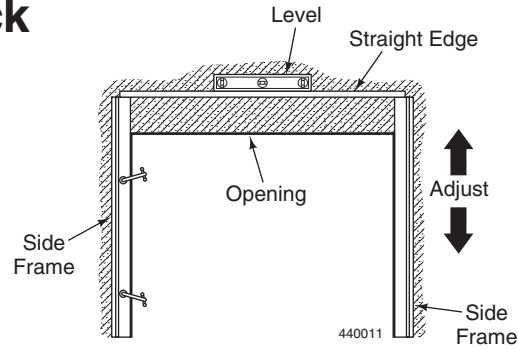

Figure 7
- Clamp the left and right Side Frames against the wall, one on each side of the door opening so they are flush with the opening and parallel to each other. Adjust one side up or down so the tops are level with each other. See *Figure 7*.